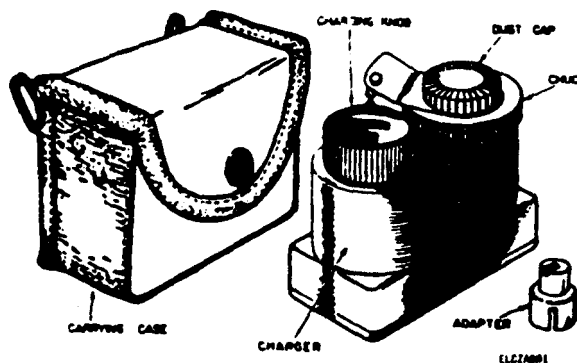

Figure 1. Charger, Radiac Detector PP-1578/PD.
PP-1578/PD (fig. 1):
*a PP-1578/PD* (fig. 1). The PP-1578/PD consists of mechanical and electrical parts enclosed in a water-tight metal case. A charging socket with a chuck mechanism that secures the dosimeter during charging, and a rotatable charging knob are mounted on the top of the case. A dust cap that protects the charging socket when the charger is not in use is secured to the case by a bead chain. An adapter that permits the charger to be used to charge United Kingdom dosimeters is stored in the dust cap when the adapter is not in use. A circular glass window in the bottom of the case admits light to the bottom of the charging socket to illuminate the reticle of the dosimeter during charging. A cloth carrying case enclosed the assembled
The PP-1578/PD has one control - a charging knob (fig. 1 and 2). Clockwise rotation of the charging knob generates a positive charge. Counterclockwise rotation of the charging knob generates a negative charge.
1-13. Operation of PP-1578/PD (fig. 1)